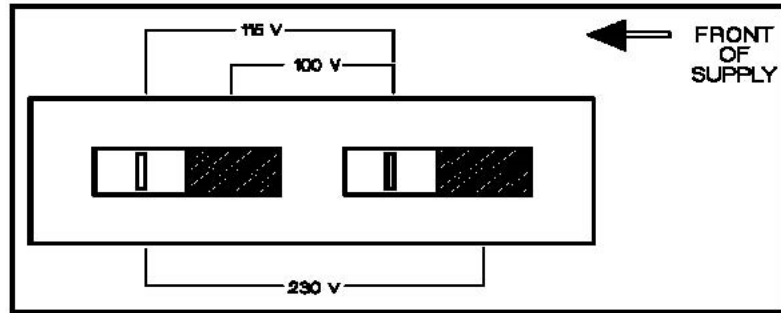

Figure 1-4 Line Voltage Selector (set for 115 VAC)
- 1 After making certain that the line cord is disconnected from a source of power, remove the top cover from the supply and set the two sections of the line voltage selector switch for the desired line voltage (see Figure 1-4).